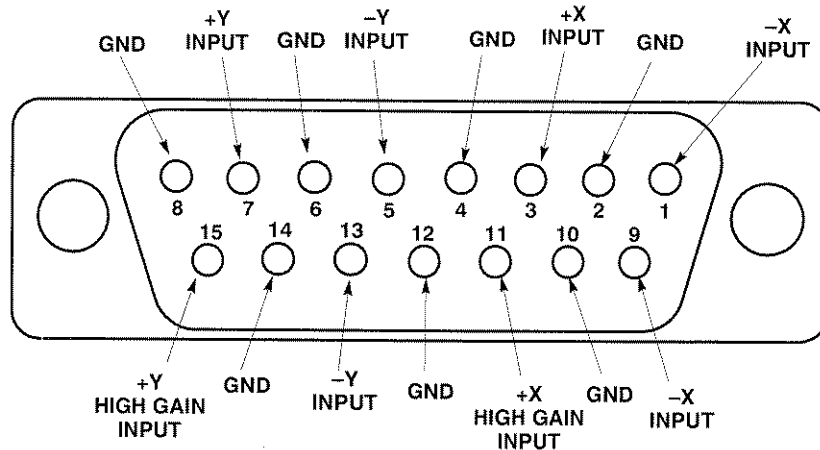

Figure 5-9: X Y INPUT connector pin functions.
- a. Connect the output of the Audio Signal Generator to pin 3 of the 1725 rear-panel XY INPUT connector. See Figure 5-9.